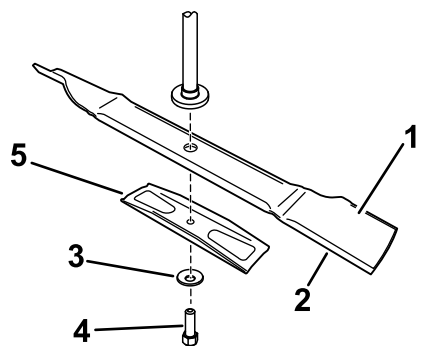

Figure 46
Hold the blade end using a rag or thickly-padded glove. Remove the blade bolt (rotating it counter-clockwise), curved washer, blade stiffener, and blade from the spindle shaft (Figure 46).
1. Install the blade onto the spindle shaft (Figure 46).
2. Install the blade stiffener, the curved washer (cupped side toward the blade) and the blade bolt (rotating it clockwise) (Figure 46).